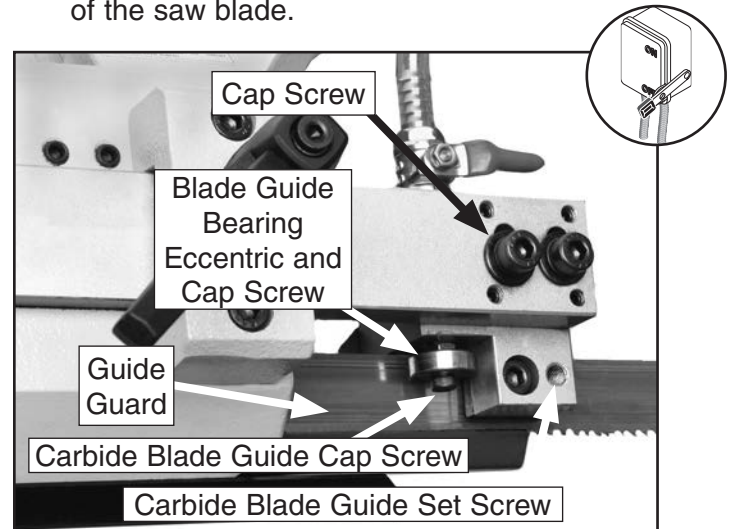

Figure 44. Upper blade guide adjustments.
4. Remove the two Phillips head screws and the blade guide guard, (see **Figure 44**).
6. Loosen both of the cap screws (**Figure 44**) and push the guide bearing housing down until the upper carbide pad rests on the back of the saw blade.
10. Loosen the carbide guide cap screw and use the set screw (**Figure 44**) to set the carbide guide clearance to zero, but do not tighten the set screw so the carbide guides pinch the blade.